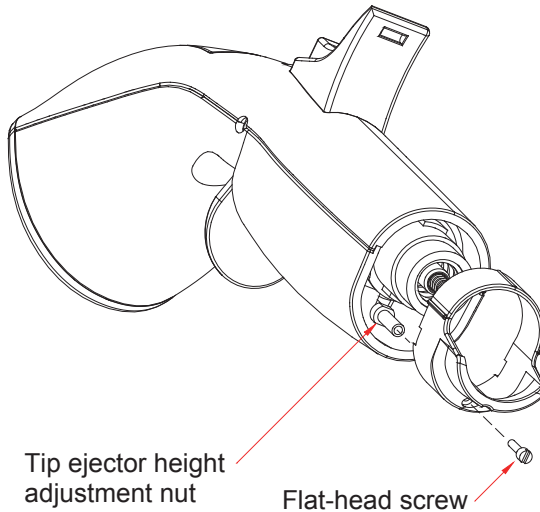

Figure 14 Tip ejector height adjustments
2. Remove the flat-head screw and bushing as shown in Figure 14.